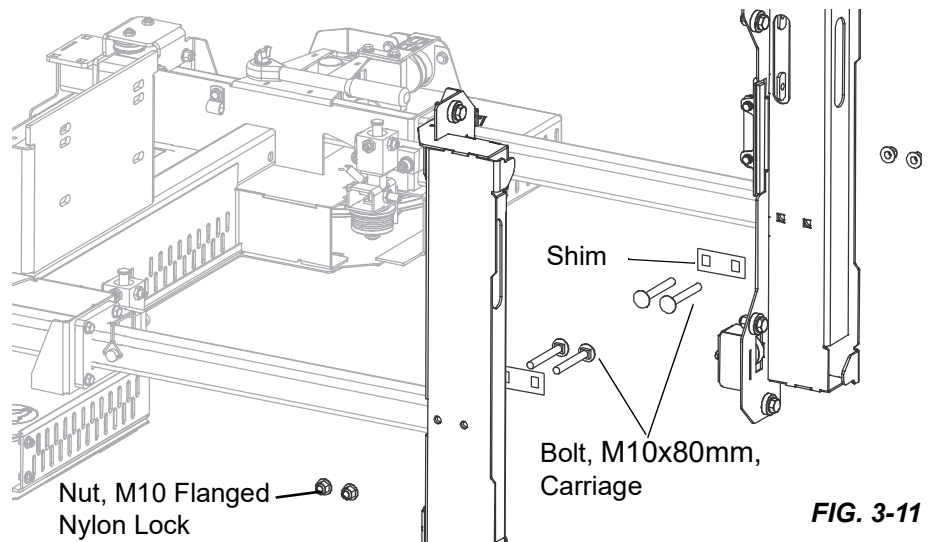

FIG. 3-11
- Slide the mast uprights into the mast carriage rollers and **loosely** secure with M10x80mm bolts as shown in Fig. 3-11.